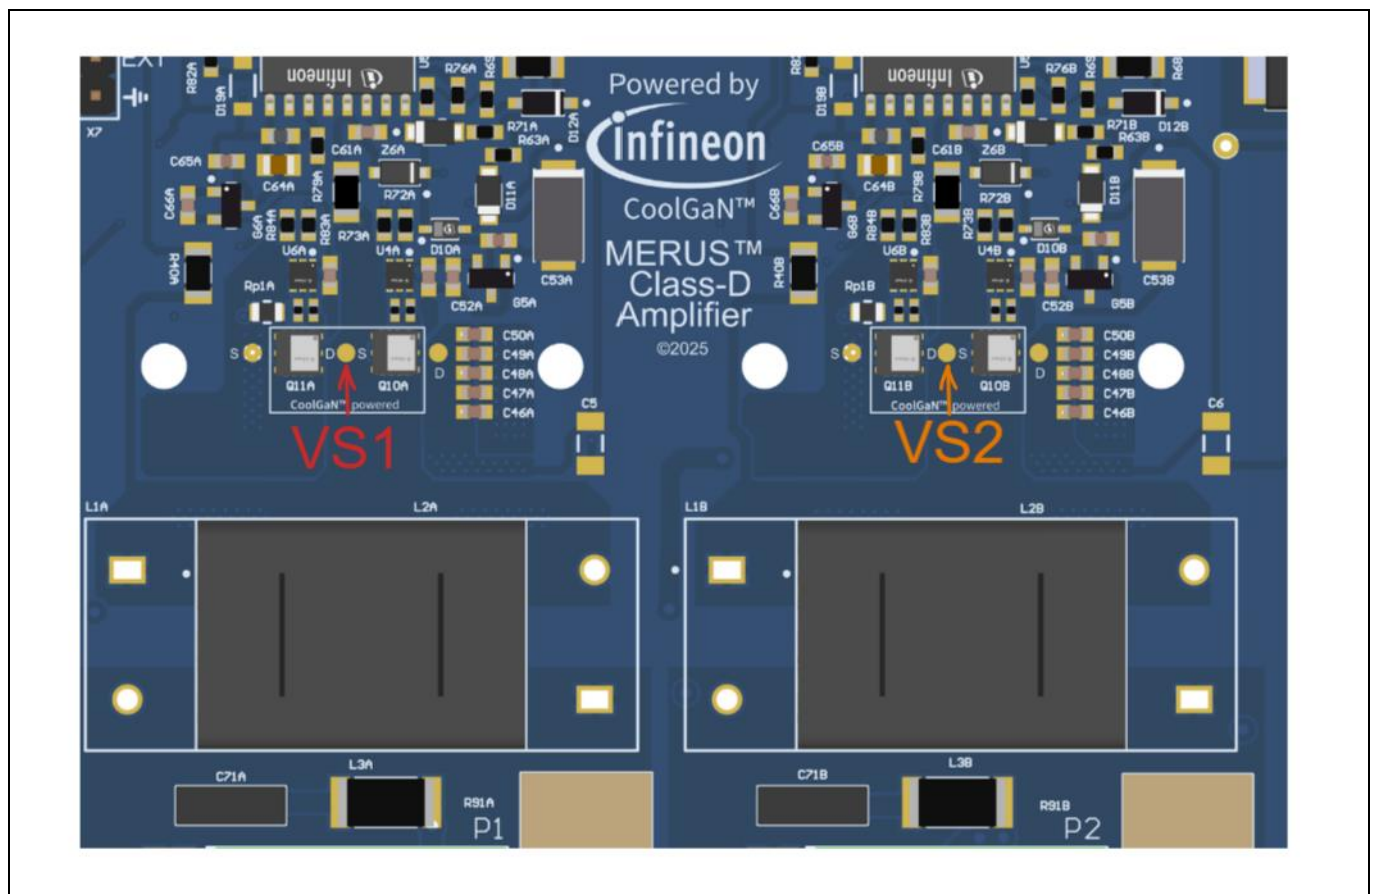

Figure 9 VS1 and VS2 test points
7. Monitor the switching waveform for CH1 at VS1 and VS2 for CH2 using an oscilloscope. See Figure 9.